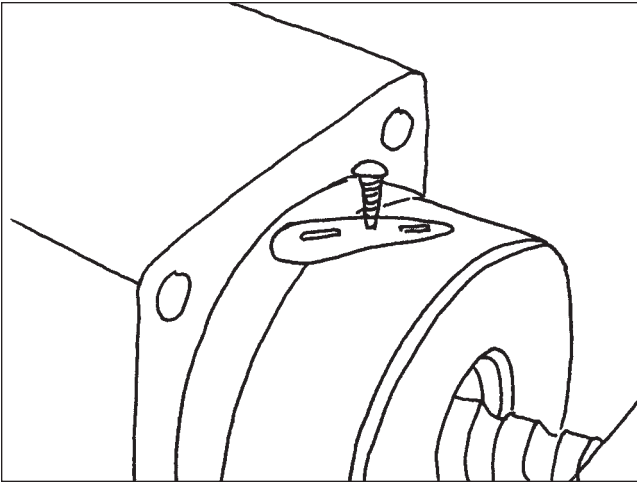

Figure 99
14. Screw a small sheet metal screw into the ball guide retainer until 2 to 3 threads are engaged. Using a pair of pliers, remove the ball guide retainer from the piston (Figures 99 & 100).